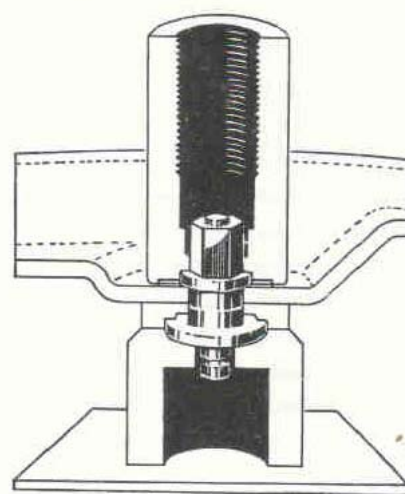

Fig. 24. Pressing together.
3. Turn the tool round and centre it on the pin. Ensure that it is aligned with the pin. Press down the tool, see Fig. 24. Discontinue pressing at a maximum pressure of 8 tons. Twist the tool and check that the pin does not move too easily. If so, further pressure should be applied.